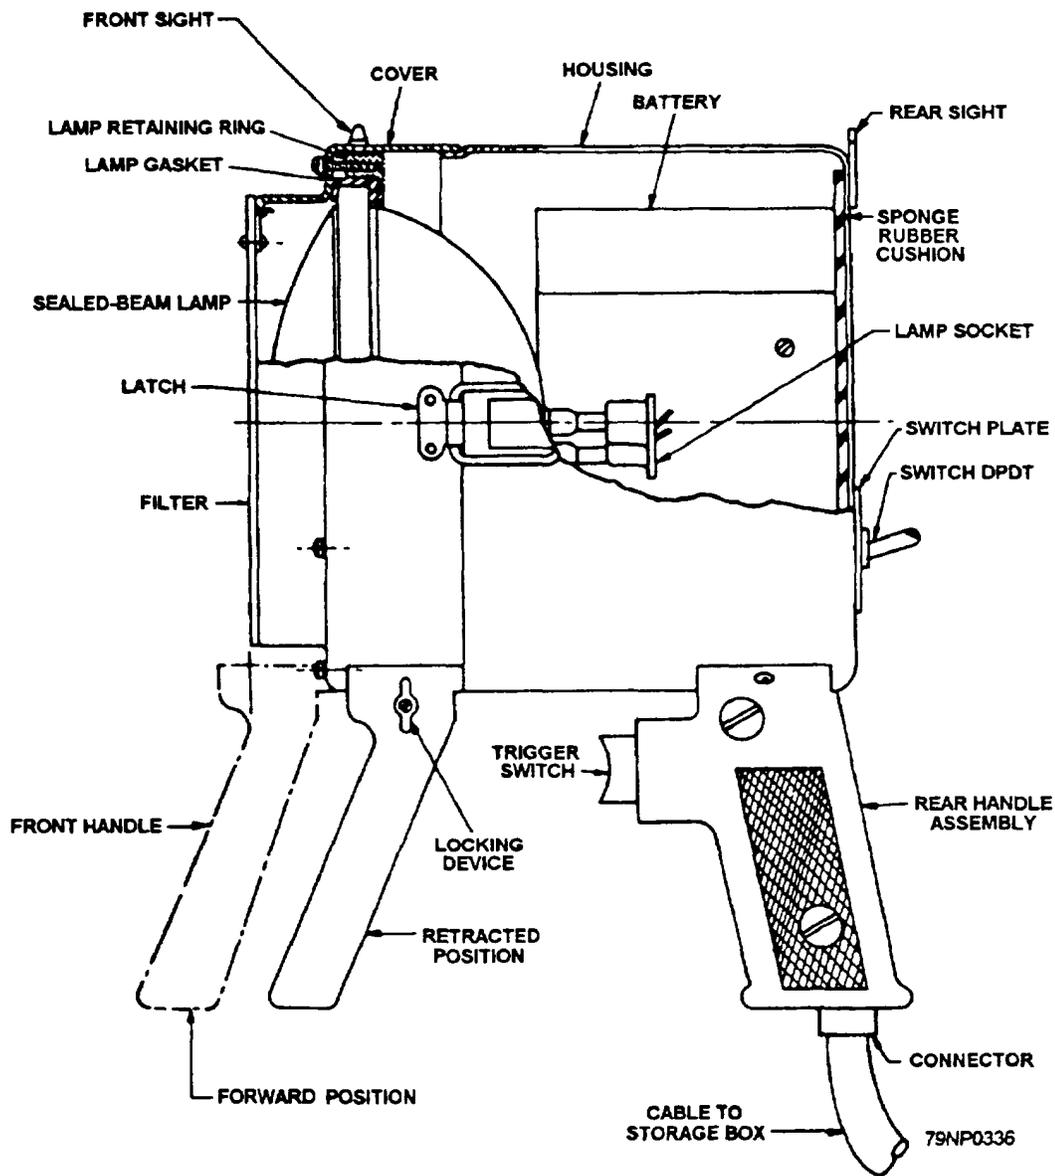

Figure 4-27.—Multipurpose signal light, symbol 106.1.
The portable multipurpose signal light (fig. 4-27) produces a high-intensity beam of light suitable for use as a spot light or as a blinker light. A trigger switch located on the rear handle is used for
2. Release the clamp ring toggle and remove the clamp ring (fig. 4-27).